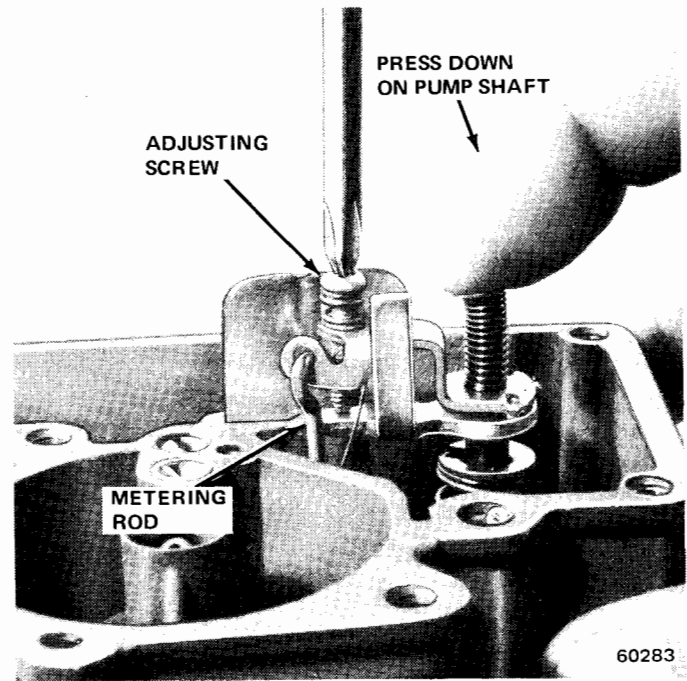

Fig. 4-28 Metering Rod Adjustment
- (1) Remove carburetor air horn and gasket from carburetor.
- (2) Back out idle speed adjusting screw until throttle plate is closed tight in throttle bore.
- (3) Press down on end of pump diaphragm shaft until assembly bottoms.
- (4) To adjust metering rod, hold diaphragm assembly as in step (3), above, then turn rod adjustment screw until metering rod just bottoms in body casting (fig. 4-28).